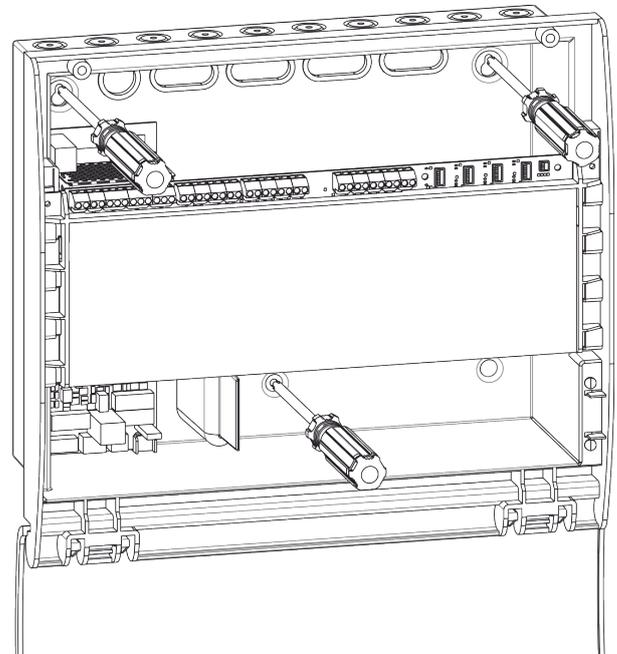

Figure 16: Wall Mount Fixing
- Using the mounting holes in the back box, drill holes into the wall and insert wall plugs and secure the panel to the wall (see Figure 16). Ensure any dust is cleaned from the back box.